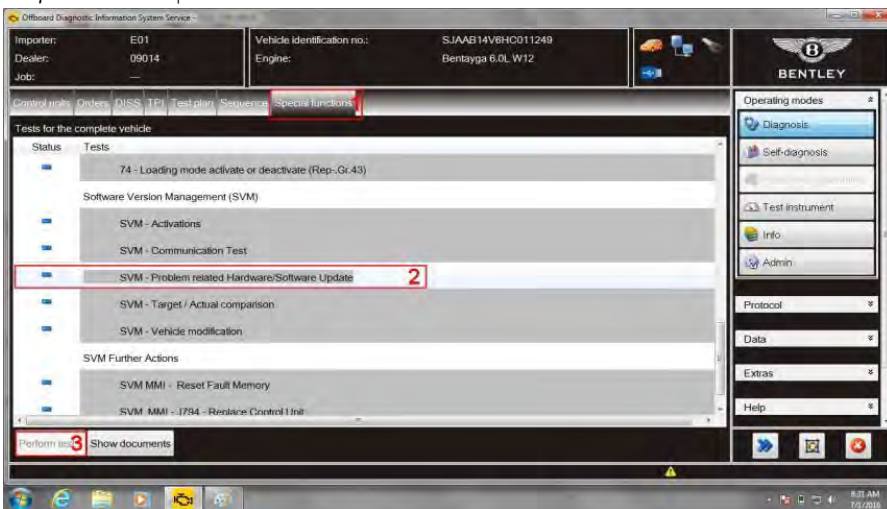

Figure 2
8. Select *Special functions* (1), Select *SVM – Problem related Hardware/Software Update* (2), Select *Perform* test (3) (see Figure 2)